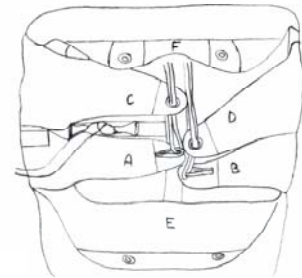

Fig.4
- To close the backup parachute cover, you will need two packing laces about 40 cm long. Thread the laces through the closing eyes sewed to flap “A” and “B” (see Fig. 4).